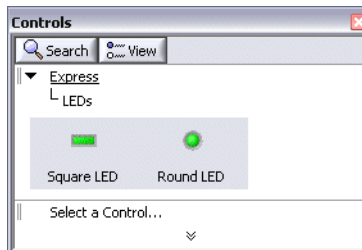

Figure 3-4. LEDs Palette
- On the **Express** palette, select the **LEDs** palette, shown in Figure 3-4.